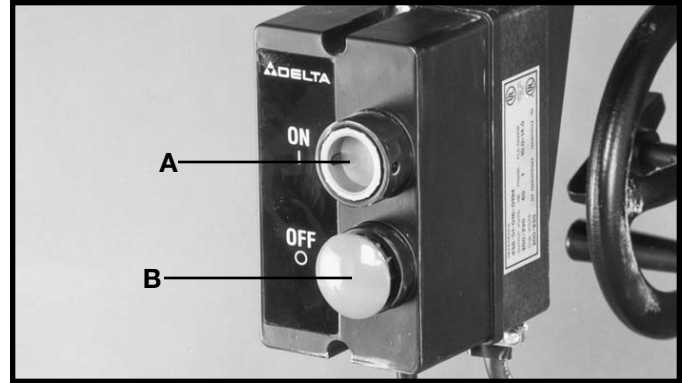

Fig. 119
To turn the saw "ON", push the "ON" button (A) Fig. 119. To stop the machine, push the "OFF" button (B).